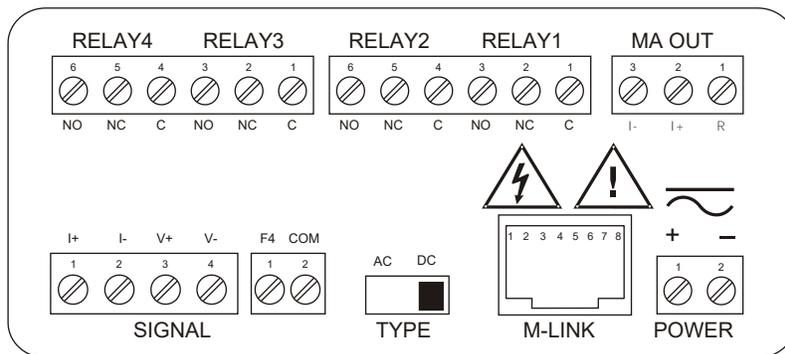

Figure 5. Connector Labeling for Fully Loaded PD6400
Isolated Transmitter Power Supply	Terminals I+ & R: 24 VDC \pm 10% @ 40mA. May be used to power the 4-20 mA output or other devices. Refer to Figure 5 on page 10 and Figure 19 on page 14.
Power connections are made to a two-terminal connector labeled POWER on Figure 5. The meter will operate regardless of DC polarity connection. The + and - symbols are only a suggested wiring convention.
Signal connections are made to a four-terminal connector labeled SIGNAL on Figure 5. The I+ and I- terminals are used for Channel A (CH-A) as the current input terminals. The V+ and V- terminals are used for Channel V (CH-V) as the voltage input terminals.
In addition to the signal connections, the switch labeled TYPE on Figure 5 must be set to AC (alternating current) or DC (direct current) to accept the corresponding type of voltage and current signals.
Serial communications connection is made to an RJ45 connector labeled M-LINK on Figure 5. For interfacing to the PROVu®, use the PDA1232 for RS-232 or the PDA1485 for RS-485. The same port is used for interfacing with all expansion modules (e.g. external relays, digital I/O).
Relay connections are made to two six-terminal connectors labeled RELAY1 – RELAY4 on Figure 5. Each relay's C terminal is common only to the normally open (NO) and normally closed (NC) contacts of the corresponding relay. The relays' C terminals should not be confused with the COM (common) terminal of the INPUT SIGNAL connector.